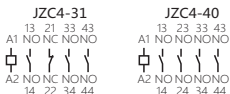

Figure 3 Marks of wiring terminals
3.2 See Figure 3 for relay wiring diagram.